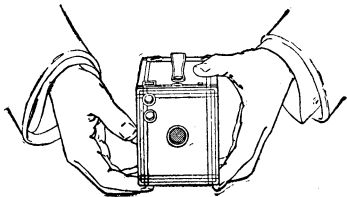

FIG. 1
8. Press down on, and at the same time turn the winding key until it fits into position, the web at lower end of key fitting into slot in spool end. This is a reversal of operation shown in Fig. 1, page 5. See Fig. VIII.
Turn the key slowly to the left until the next number appears before the window. (The index hand only appears before figure 1.)